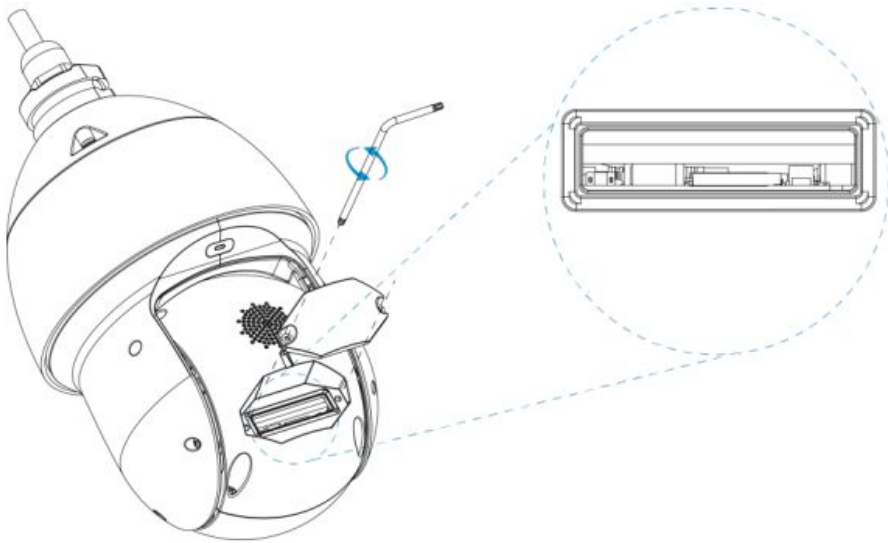

Figure 2-9
Step 1 See Figure 2-9 for cover location. Remove the cover. Skip to Step 3 if only installing SD Card.
Step 2 Slightly press the RESET button for 15-30 seconds to complete the reset function. See Figure 2-9. The camera will reboot when the reset process is complete.
Step 3 (If installing SD Card) Adjust the Micro SD Card to the proper direction as shown in Figure 2-9.